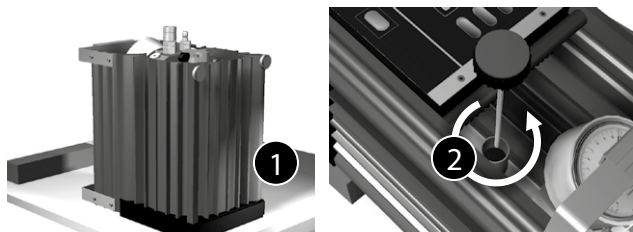

Fig. 9
Carefully place the Hydraulic Power Unit in an upright position (1), so that the vent is at the bottom and the unit flange on the top. During fill-up, the air must be able to escape from the tank through the oil drain plug (2). Remove dipstick (Fig. 9).